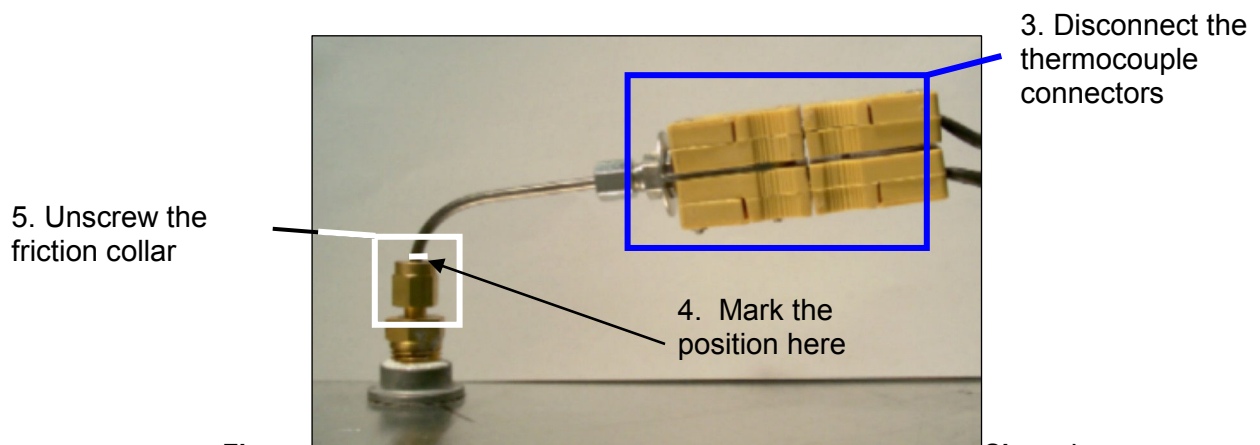

Figure 7-14: Thermocouple installed (Over Temperature T/C Shown)
3. Disconnect the thermocouple connectors; See Figure 7-14 below.